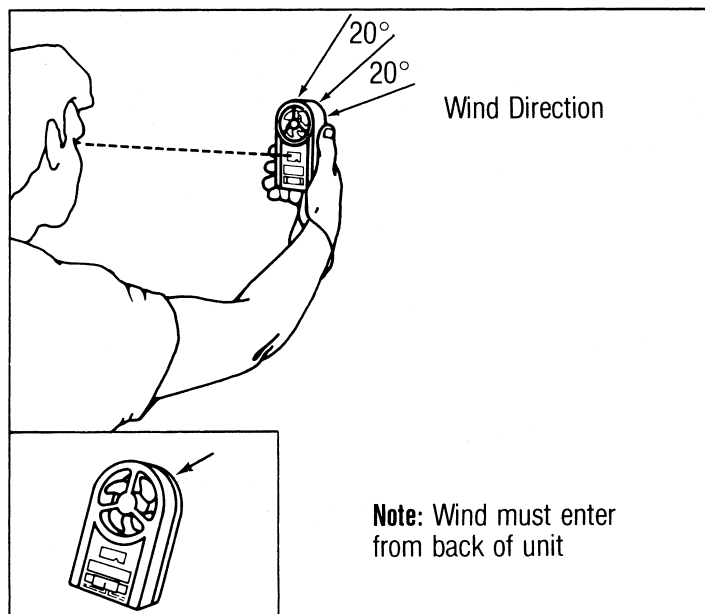

Figure 2
3. Determine the approximate wind direction from the way flags, clouds, kites, windsocks, etc. are moving. Hold the Turbo Meter so that the wind will pass through it as shown in Fig. 2. For best results try to keep the axis of the turbine within 20° of the direction of the wind.